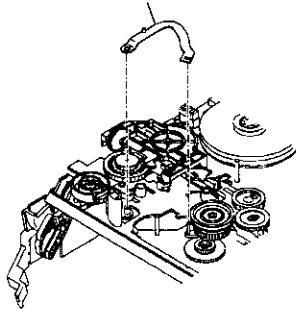

Fig. 2-23-1
- 1 Remove the IDLER CENTER LEVER shown in Fig. 2-23-1.